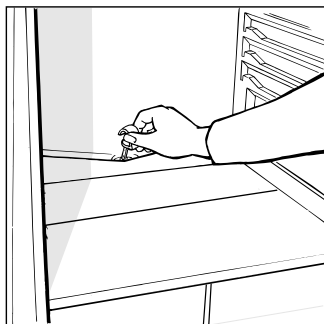

Fig. 5
This appliance defrosts automatically and the water is channeled to the back toward the drain installed for this purpose (fig. 5). Here, the heat produced by the compressor will make it evaporate. The only thing you must do is to periodically check and clean the hole of the drain, which is located behind the vegetable crispers, so that the water drains properly.
- The hole for draining the water from the frost is clogged (see fig. 5).